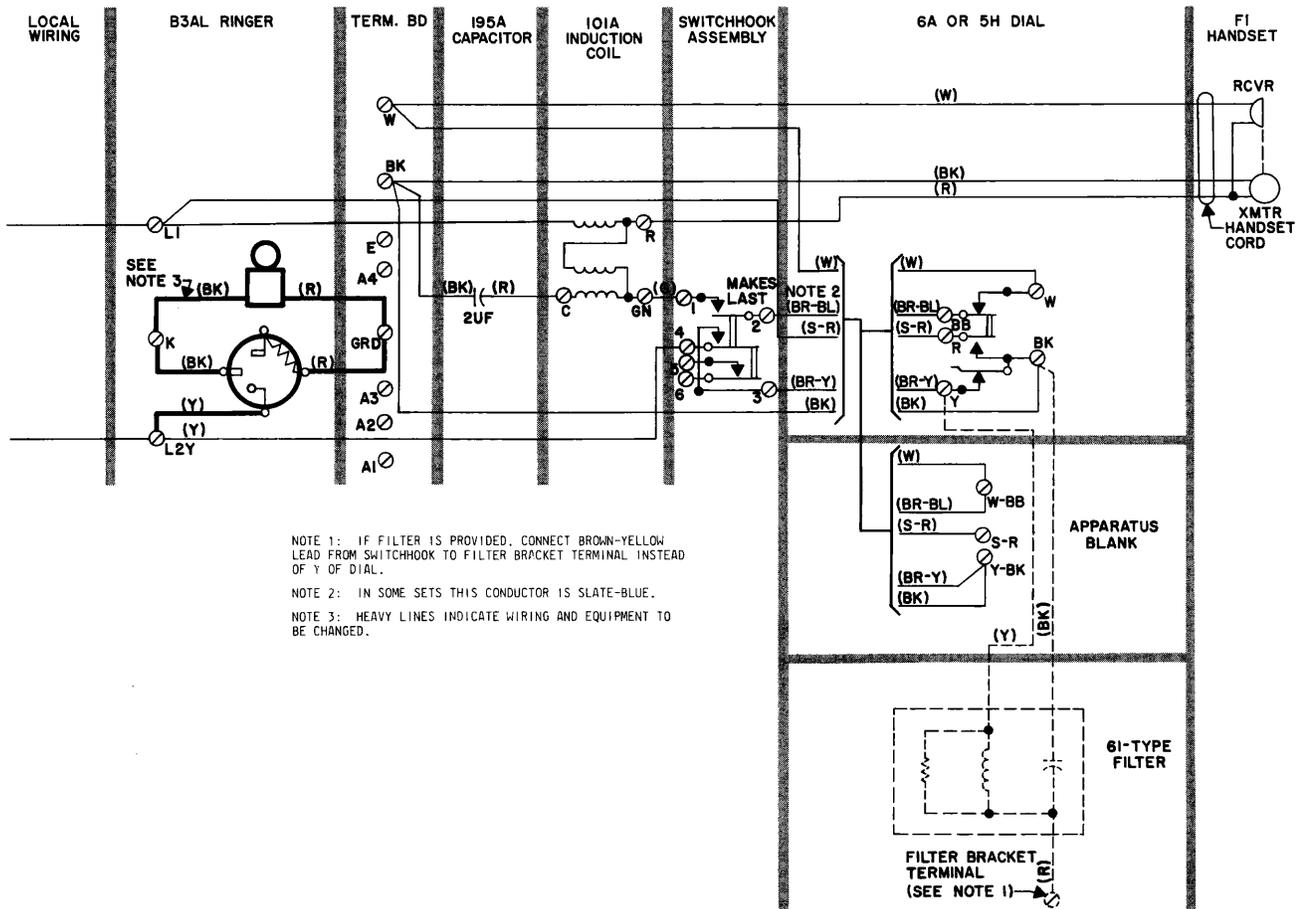
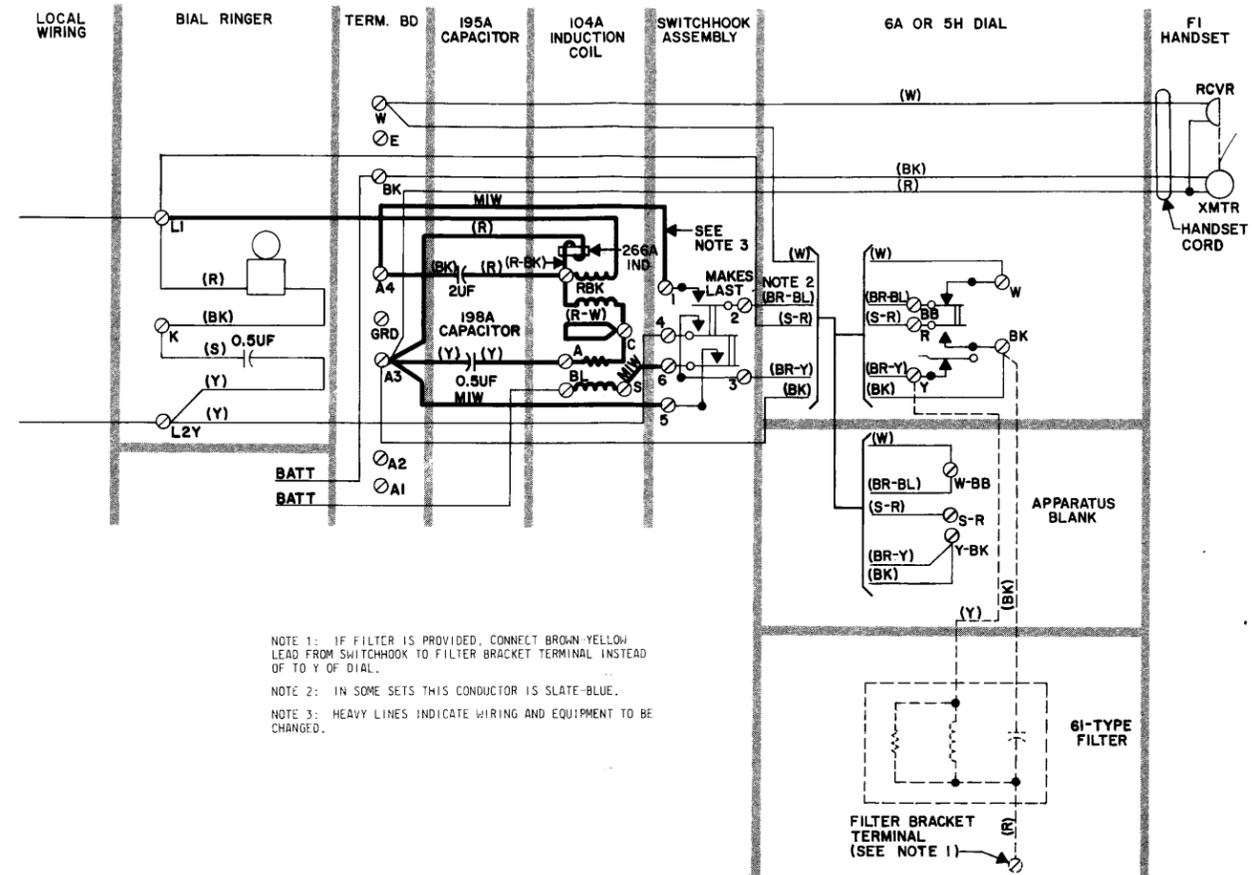
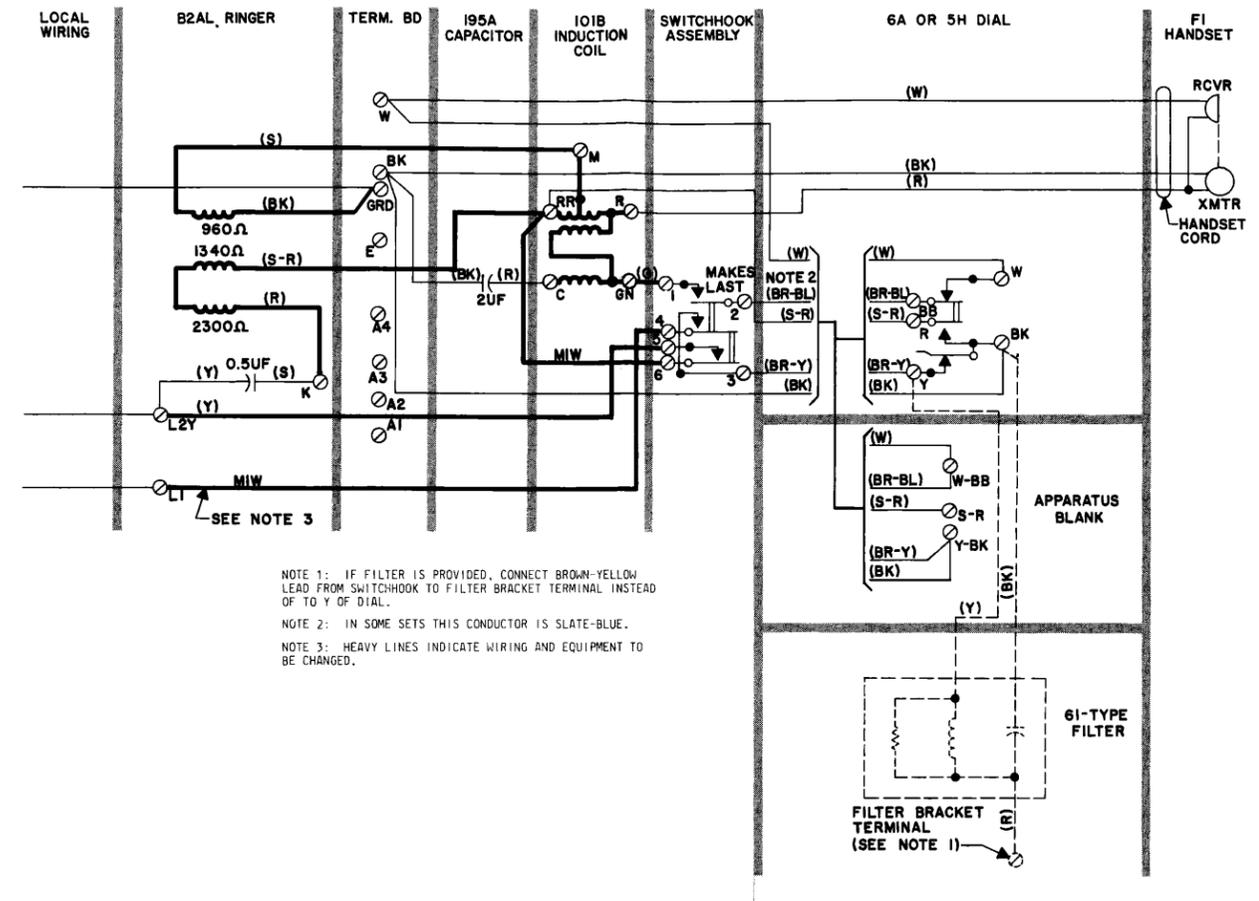

Fig. 3 – Circuit Diagram for 325J, L, M, and N Telephone Sets, Modified for Use on 4-Party Selective and 8-Party Semiselective Lines
Fig. 4 – Circuit Diagram for 325J, L, M, and N Telephone Sets, Modified for Use on Local Battery Talking and Common Battery Signaling Lines
Fig. 5 – Circuit Diagram for 325J, L, M, and N Telephone Sets, Modified for Tip Party Identification
- 2.04 Table B and Fig. 3, Table C and Fig. 4, and Table D and Fig. 5 show modified connections for the 325J, L, M, and N telephone sets.
325J, L, M, AND N TELEPHONE SETS MODIFIED FOR TUBE-TYPE RINGING BRIDGES (See Fig. 3)
325J, L, M, AND N TELEPHONE SETS MODIFIED FOR LOCAL BATTERY TALKING AND COMMON BATTERY SIGNALING (See Fig. 4)
325J, L, M, AND N TELEPHONE SETS MODIFIED FOR 2-PARTY TIP STATION IDENTIFICATION (See Fig. 5)